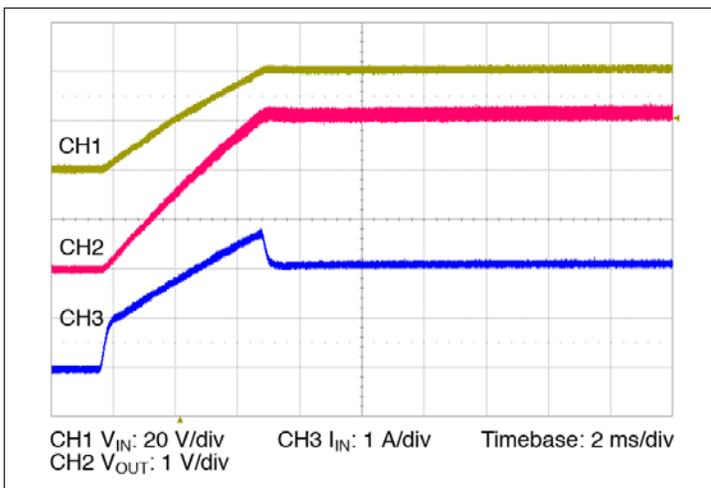

Figure 13 — Start up from application of  $V_{IN}$ ;  $V_C$  pre-applied  $C_{OUT} = 0 \mu\text{F}$
- Normal Operation (VC applied prior to VIN): In this case the controller is active prior to ramping the input. When the input voltage is applied, the VTM output voltage will track the input (See Figure 13). The inrush current is determined by the input voltage rate of rise and output capacitance. If the VC voltage is removed prior to the input reaching 26 V, the VTM module may shut down.